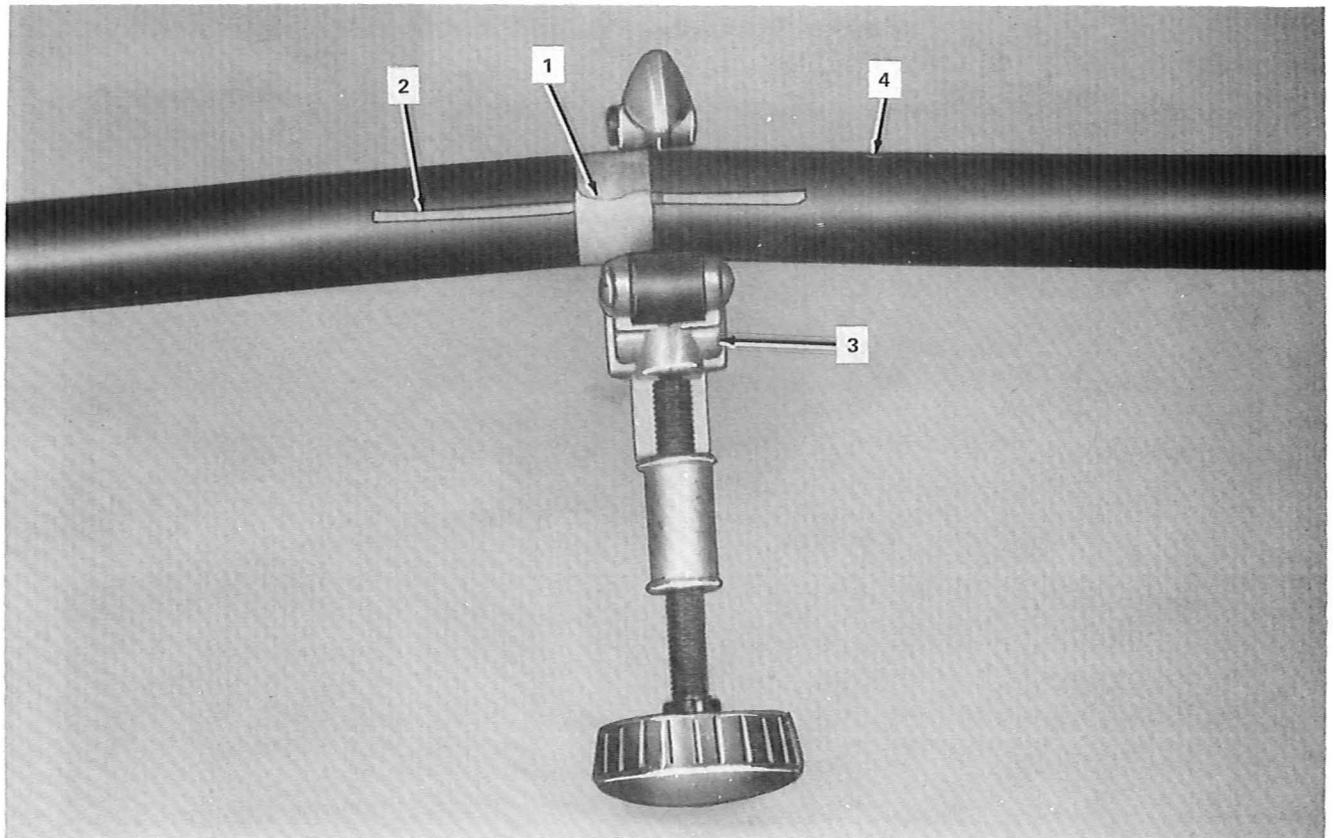

Fig. 28—Marking and Removing Outer Sheath
4.09 Prepare the RL sheath, 3- or 6- unit, as outlined in Fig. 28 through 34.